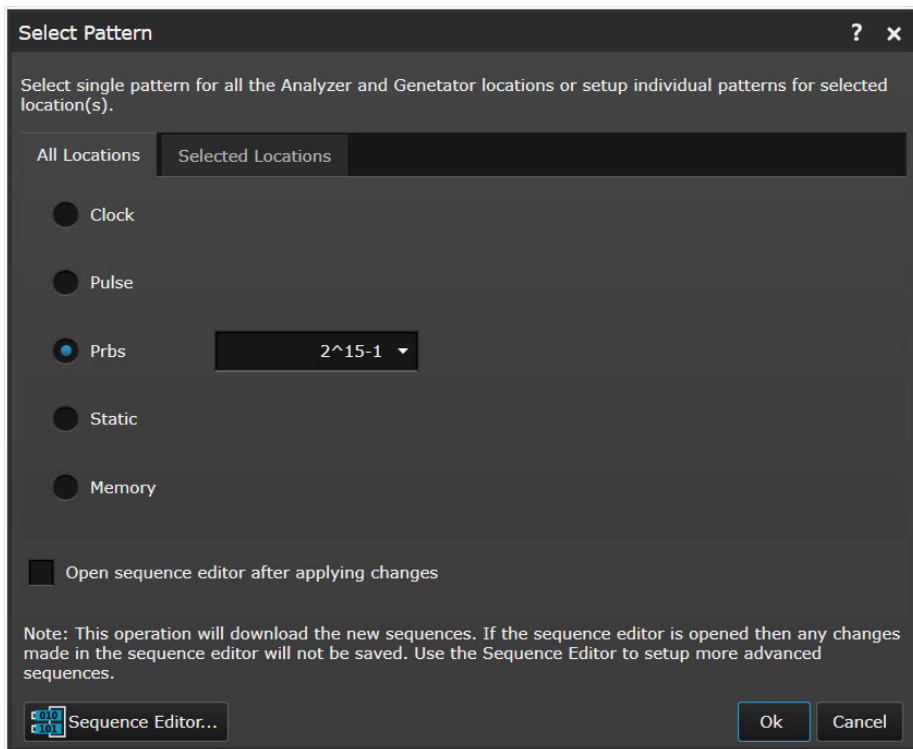

Figure 21 Select Sequence Pattern Dialog
- 4 On the menu bar, click on **Patterns > Select Pattern....** A **Select Sequence Pattern** dialog will appear as shown in Figure 21 on page -52.